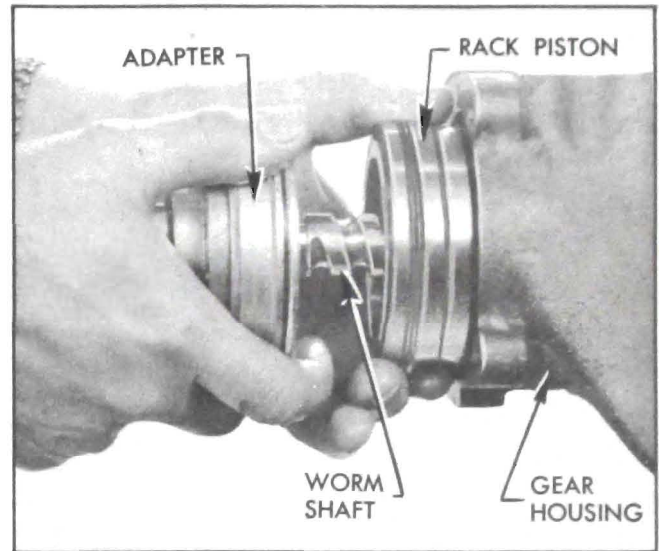

Figure 8-24—Removing Rack-Piston and Worm Assembly
5. Pull rack-piston and worm assembly out of housing. See Figure 8-24.